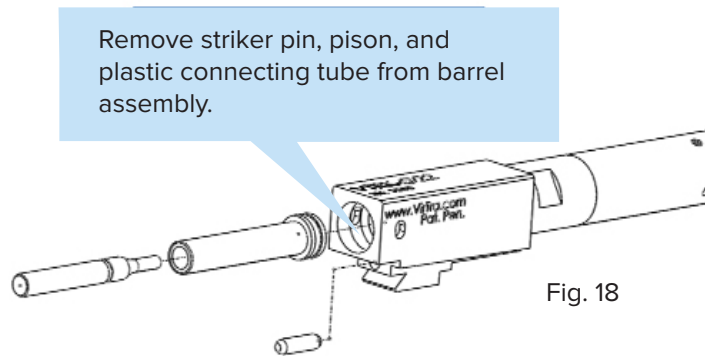

Fig. 18
10. Remove items from the barrel assembly as described in figure 18 below.